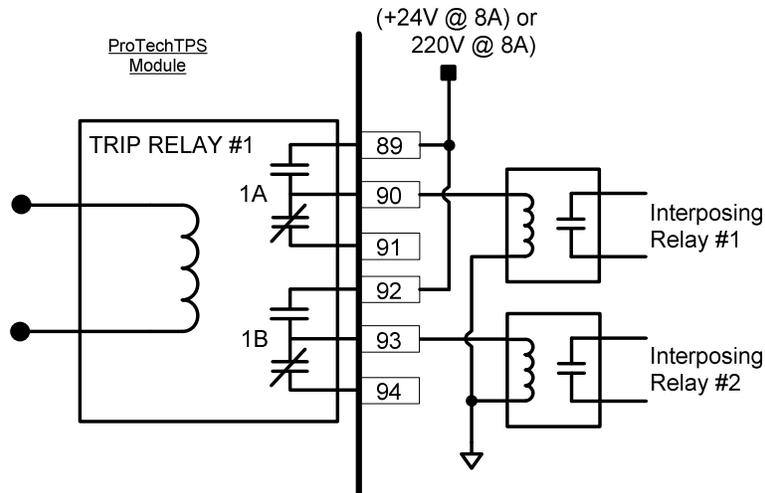

Figure 2-16d. Example Trip Relay Wiring (Voted Trip Relay Models)
**Note:** with the “Voted Trip Relay” ProTech® TPS models, the two solid-state trip relays located on each module (A, B, C) are not available for use or connection. Each module’s trip signal relays are connected internally to the ProTech® TPS in a 2-o-o-3 voted fashion to drive two redundant Form-C trip relays on the unit’s 2-out-of-3 voted relay module. These two redundant relays have normally open and normally closed output contacts rated for 220 Vac @ 8 A or 24 Vdc @ 8 A. Refer to Figure 2-16a for relay terminal location and Figure 2-16d for wiring information.